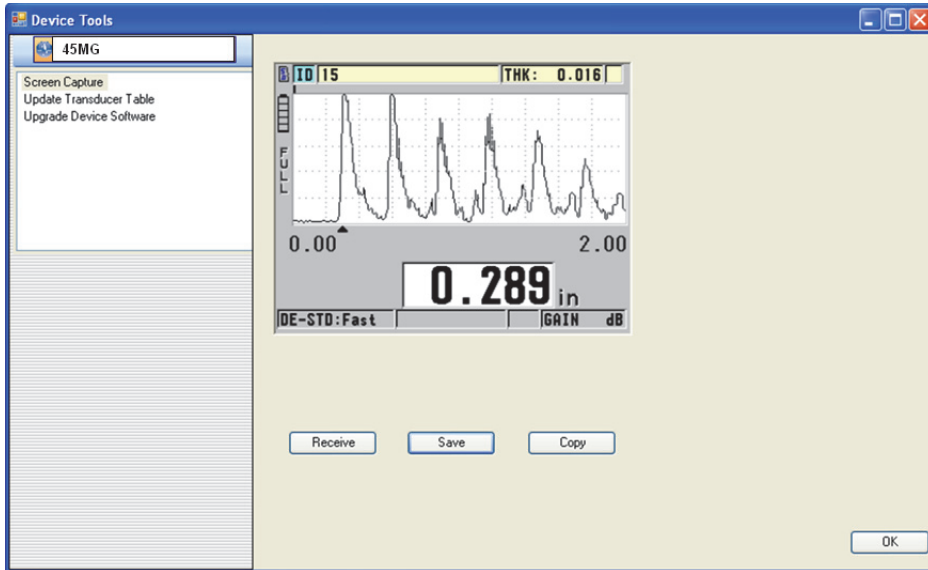

Figure 11-5 The Device Tools dialog box with a screen capture
- b) In the **Device Tools** dialog box (see Figure 11-5 on page 202), select **Screen Capture**, and then click **Receive**.